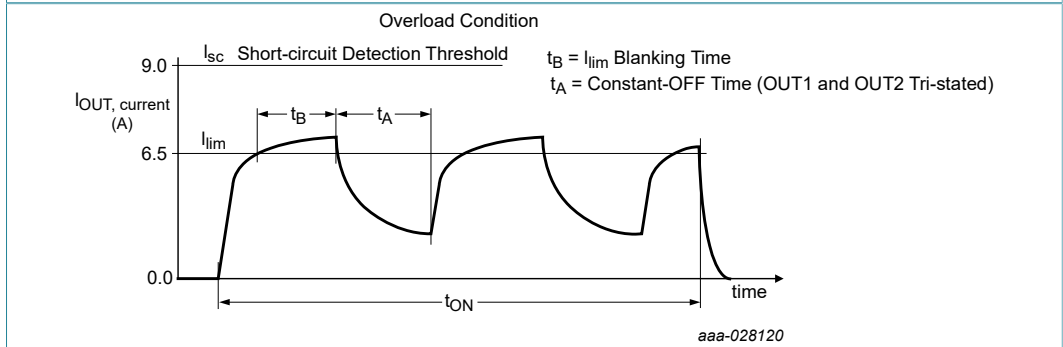

Figure 8. Current limit blanking time and constant-off time
- [9] Load currents ramping up to the current regulation threshold become limited at the  $I_{LIM}$  value (see Figure 8). The short-circuit currents possess a  $di/dt$  that ramps up to the  $I_{SCH}$  or  $I_{SCL}$  threshold during the  $I_{LIM}$  blanking time, registering as a short-circuit event detection and causing the shutdown circuitry to force the output into an immediate 3-state latch-off (see Figure 9). Operation in current limit mode may cause junction temperatures to rise. Junction temperatures above  $\sim 160\text{ }^\circ\text{C}$  causes the output current limit threshold to "foldback", or decrease, until  $\sim 175\text{ }^\circ\text{C}$  is reached, after which the  $t_{LIM}$  thermal latch-off occurs. Permissible operation within this foldback region is limited to non-repetitive transient events of duration not to exceed 30 seconds (see Figure 10).